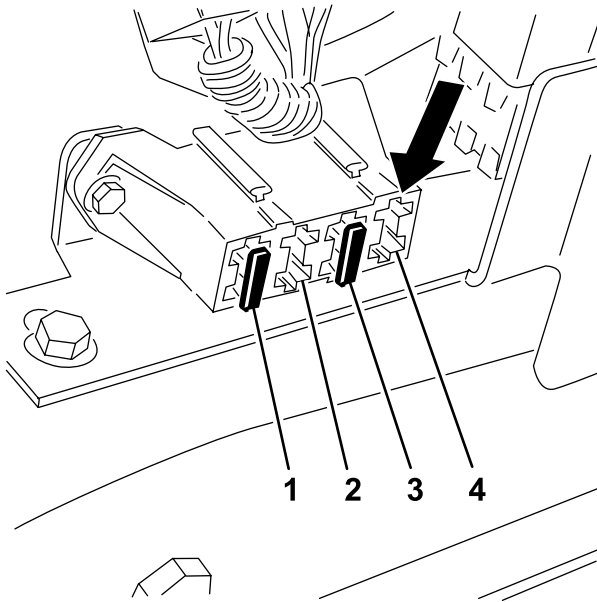

Figure 26
- A. Install the fuse (10 A) to the fuse-block location shown in Figure 26.